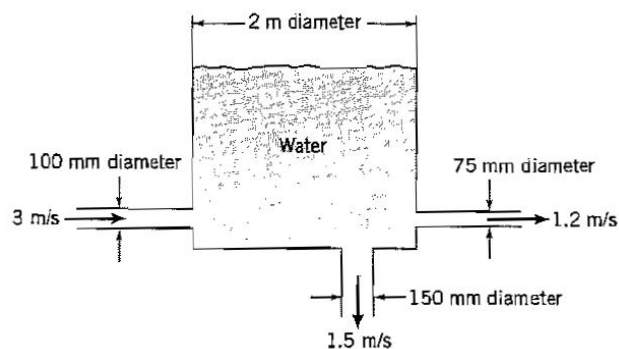

Figure P3.9
3.9 Is the tank shown in Figure P3.9 filling or emptying? At what rate is the water level rising or falling? Assume that the density is constant. All inflow and outflow velocities are steady and constant over their respective areas.